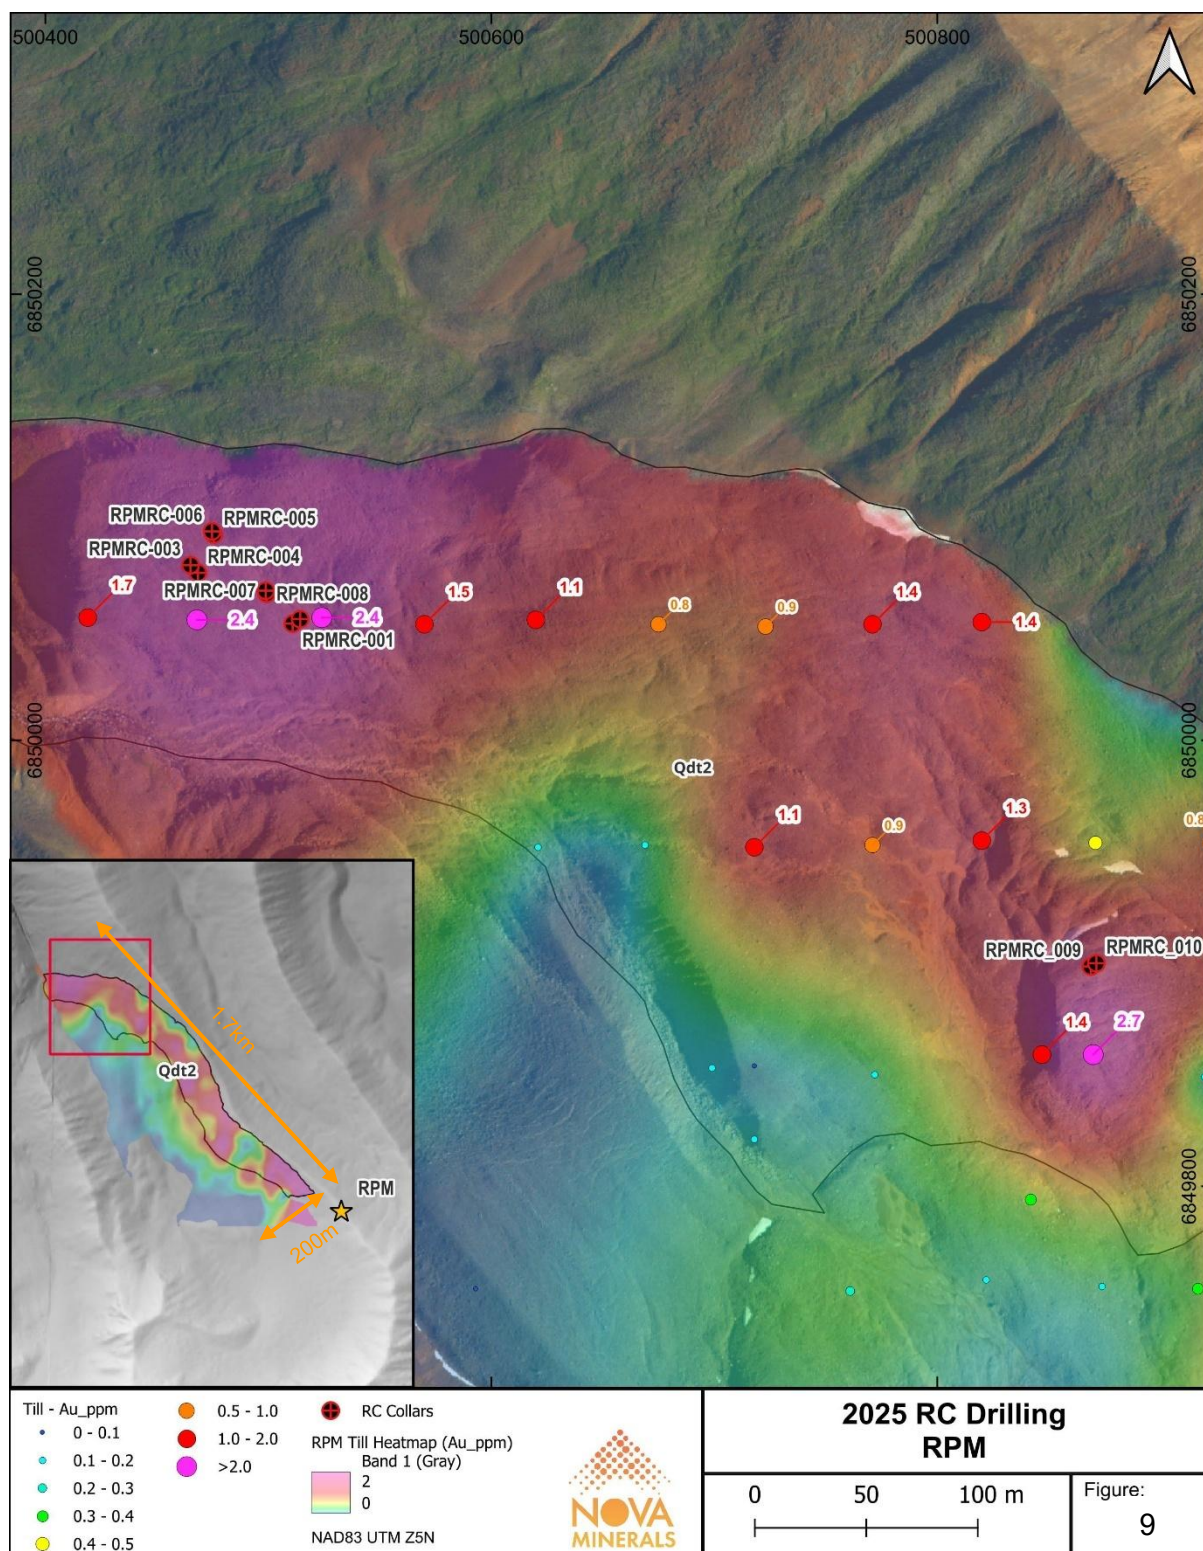

Figure 9. RPM glacial till RC drilling plan view
- 10 RC holes were completed in the RPM glacial till using Nova's in-house rig as a preliminary, cost-effective test, returning a notable intercept of 33 m @ 0.3 g/t Au from surface (RPMRC-009). Results indicate the essentially drilled and blasted till material may be at least 30m thick over ~330,000 m², and this area remains a high-priority target, with future work to focus on improved sampling methods and thickness verification (Table 4 and Figure 9).
A total of ten holes were drilled in the glacial till with Nova's in-house reverse circulation (RC) drill rig. The RC drilling method in the loose unconsolidated mineralized glacial till resulted in sample loss and low recoveries, and the inability to consistently reach target depth due to difficult ground conditions. As such, the Company believes that these samples underrepresent the potential grade and depth of the zone. Alternative drilling methods such as split spoon sampling or sonic drilling are may be more appropriate tools to retrieve more representative, in-situ samples from the till. However, Nova's utilisation of their RC drill rig was cost effective for this preliminary test. The finer fraction targeted in the 2024 soil sampling grid (ASX Announcement 3 February 2025) is susceptible to being blown out by the compressed air and into the unconsolidated till and not recovered in the drill sample. Despite this drawback, one significant intercept was returned from RPMRC-009 with 33m @ 0.3 g/t Au from surface. It is important to note that the glacial till is essentially like a drilled and blasted broken rock stockpile, and likely amenable to heap leaching which has been proven effective at RPM (Gold recoveries of up to 68.7% achieved via heap leach in ASX Announcement 5 August 2025). Maiden drilling confirms the till is at least 33m thick in a debris lobe that has been mapped to have an areal extent of over 1.7km long and 200m wide (~ 330,000 square meters) shown as Qdt2 on Figure 9. The glacial till remains a high priority target for Nova, and future work will focus on collecting more representative samples and verifying the overall thickness.